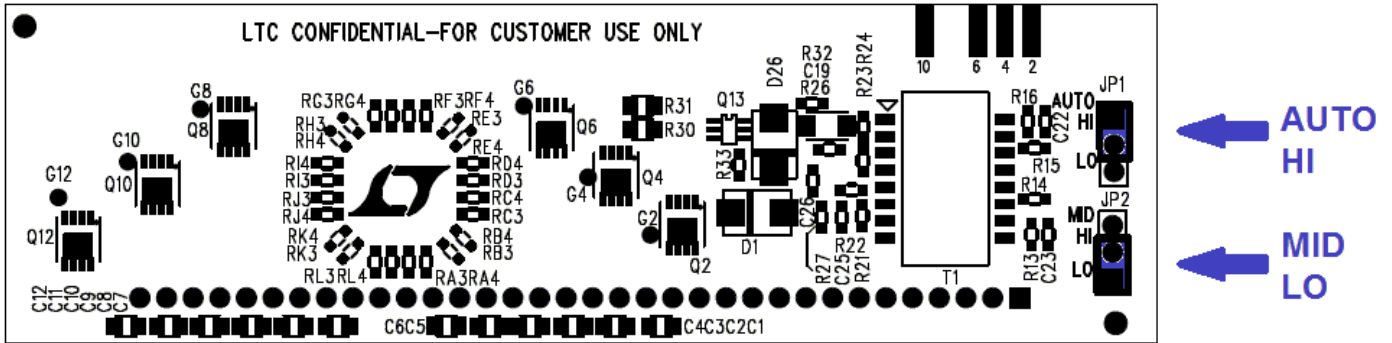

Figure 1. DC1682 Backside. Setting AUTO and MID Jumpers
Demonstration kit DC1840C includes the DC1682 daughter card and DC1680 mother board. The kit is set up for evaluating the LTC4270/LTC4271. Follow the procedure below and refer to Figures 1 through 4 for proper equipment setup.
1. On the DC1682 set AUTO jumper JP1 to HI (Figure 1) to enable AUTO pin mode.
2. On the DC1682 set MID jumper JP2 to LO (Figure 1) to disable midspan mode.